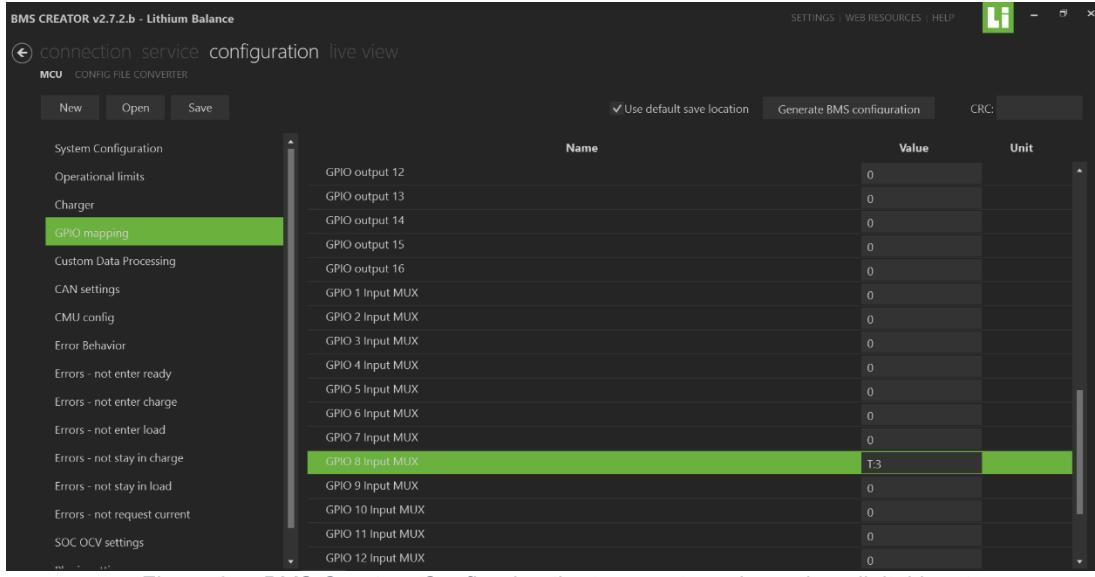

Figure 64 : BMS Creator : Configuring the temperature channel as digital input
- a) The user needs to mention the temperature channel number for the corresponding GPIO Input number as shown in Figure 64.